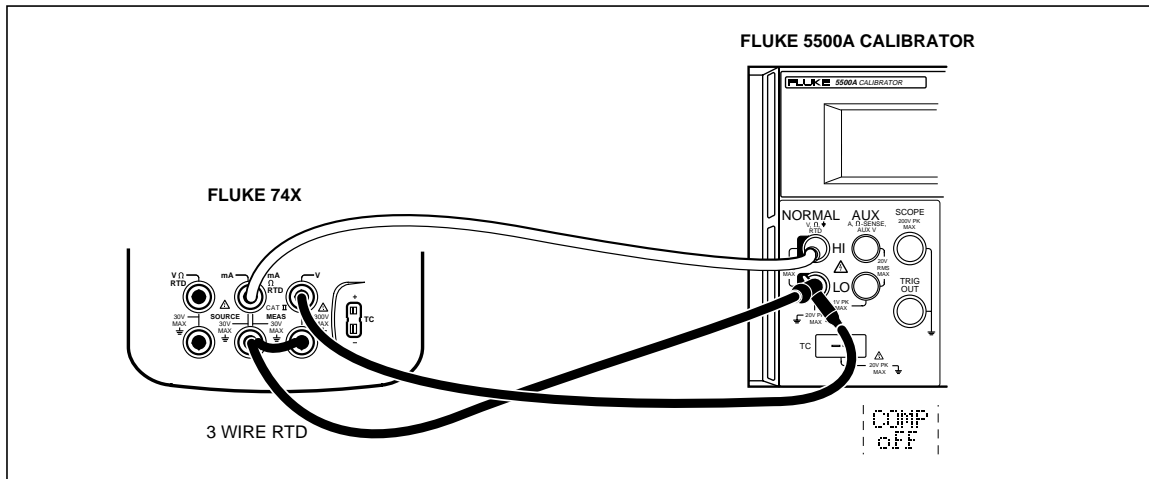

Figure 13. Three-Wire RTD Measure Verification Connections
1. Connect the UUT to the 5500A as shown in Figure 13.
2. Set the UUT to the RTD Measure function, Pt100 (385), ITS-90 scale, 3-Wire termination.
3. Set the 5500A to RTD, Pt100 (385) at -180 °C, ITS-90 scale, and comp four-wire to "OFF" position. Set the 5500A to [Operate].